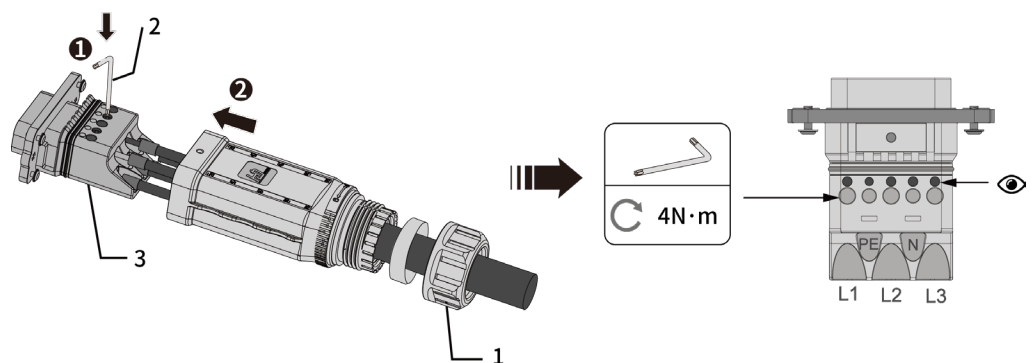

Fig. 19. Connect wires to contact carrier and tighten housing screws
3. Slide the cover over the connector in such a way that the hole and the logo of the cover are visible (see Fig. 19).